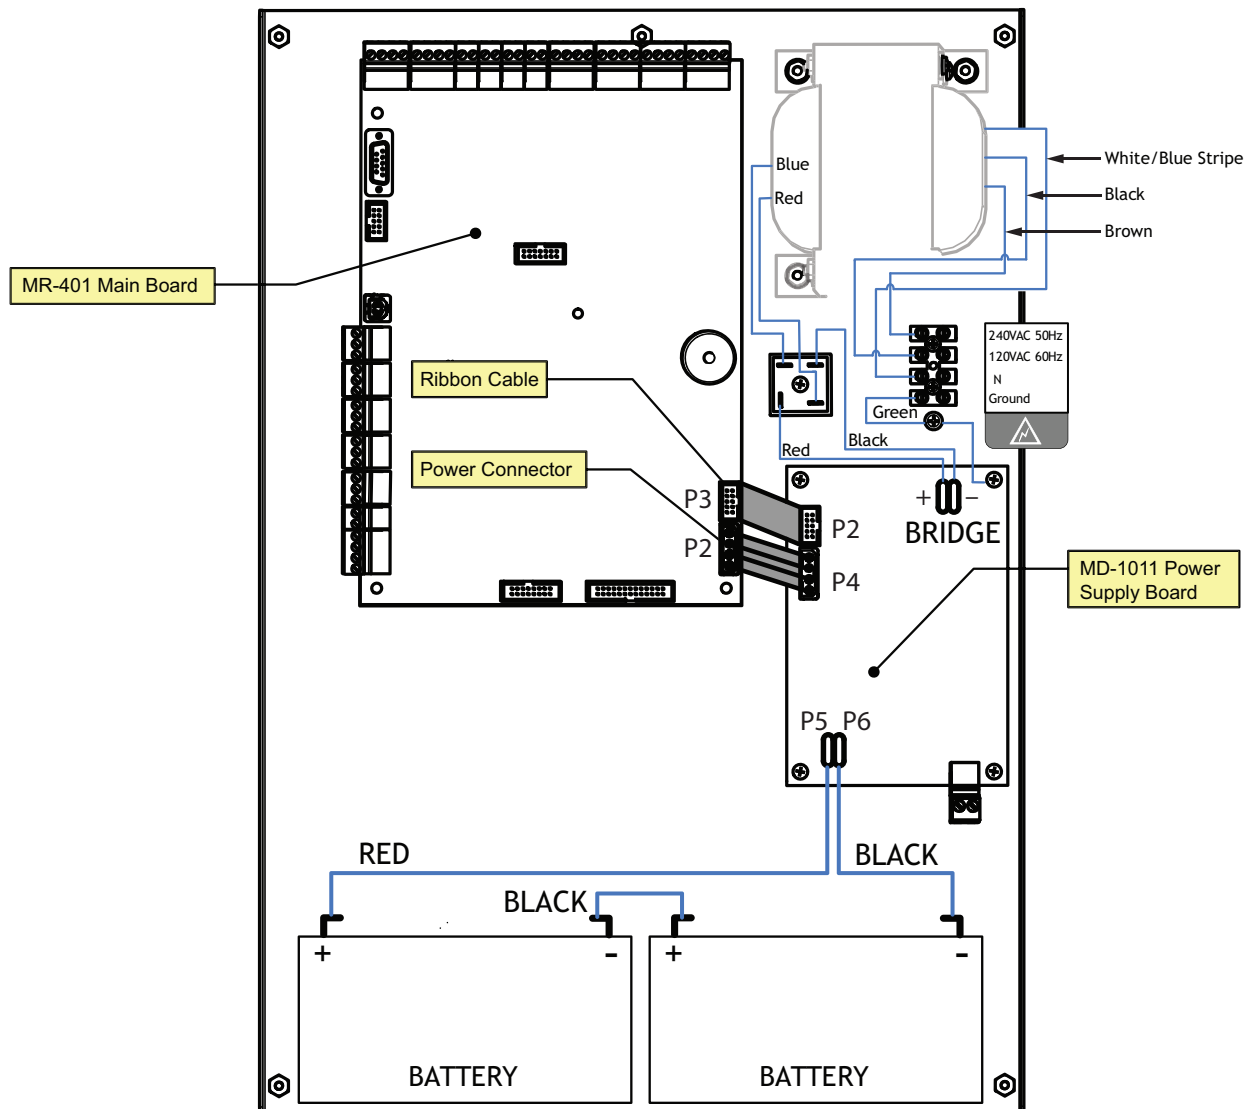

Figure 30 Main Power Supply Wiring and Connections
Wire the Power Supply as shown in Figure 30 and adhere to the following:
- Wire the AC power to the AC wiring terminals as shown in Figure 30 using the proper wire gauge with 600 volt insulation and proper over current circuit protection that complies with local codes.